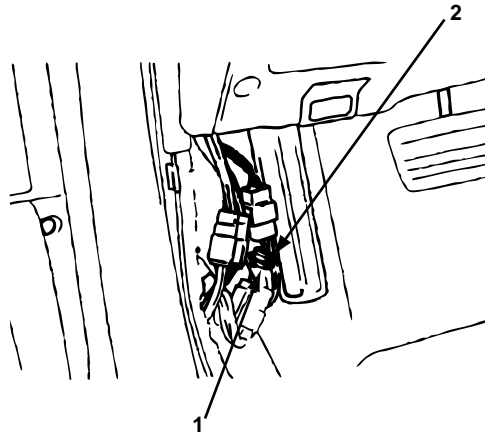

Figure 15-50 1993–94 Legacy ABS Check connector location
- 1993–1994 Legacy/Outback, Sedan and Wagon (Figure 15-50)
3. Ground the ABS Check connector terminal L (Figure 15-50).
1. Disconnect the ABS Check connector terminal L from ground (Figure 15-50).